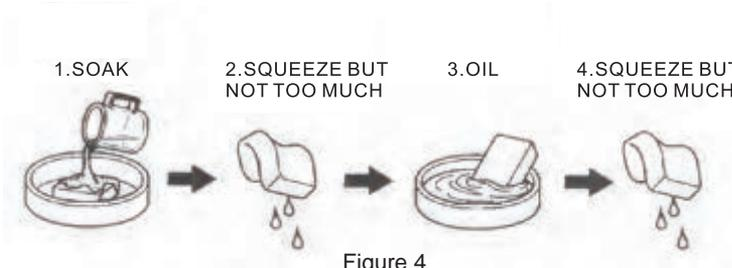

Figure 4
1. Remove the screws (8 screws) ① and then remove the cover ②.
2. Then remove the air filter case cover ③.
3. Remove the foam element ④.
4. Wash the element in soapy water squeeze filter dry in clean cloth (NOTE:DO NOT TWIST)Figure 4.